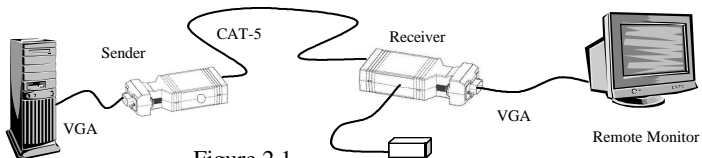

Figure 2.1
1. Connect the VGA in (HD-15) connector of the AC504A Transmitter to the computer's or other equipment's video output port using the supplied cable (see figure 2.1).